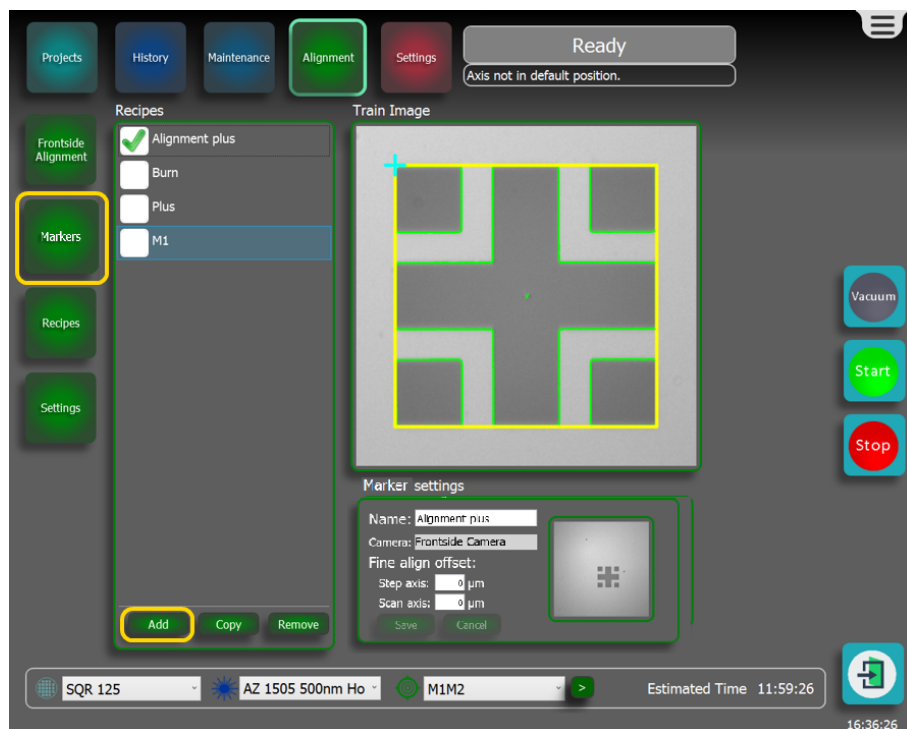

Figure 3-106 Train Image screen
1. To start the marker training, press **Markers** on the left side of the screen to open the marker window. The **Train Image** window of the activated marker pops up, see **Figure 3-106 on the next page**.